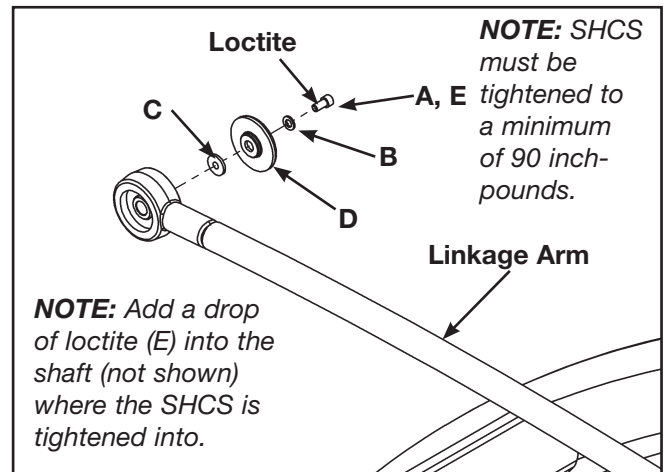

Figure 2
- A. Turn the main power switch above the power inlet to the off (0) position.
- C. Place a drop of loctite (E) on the new SHCS (A) and place another drop of loctite (E) into the shaft (where the SHCS will be tightened into).
- D. Install the new spacer (C), cap (D), flat washer (B) and SHCS (A, E) as shown in Figure 2.